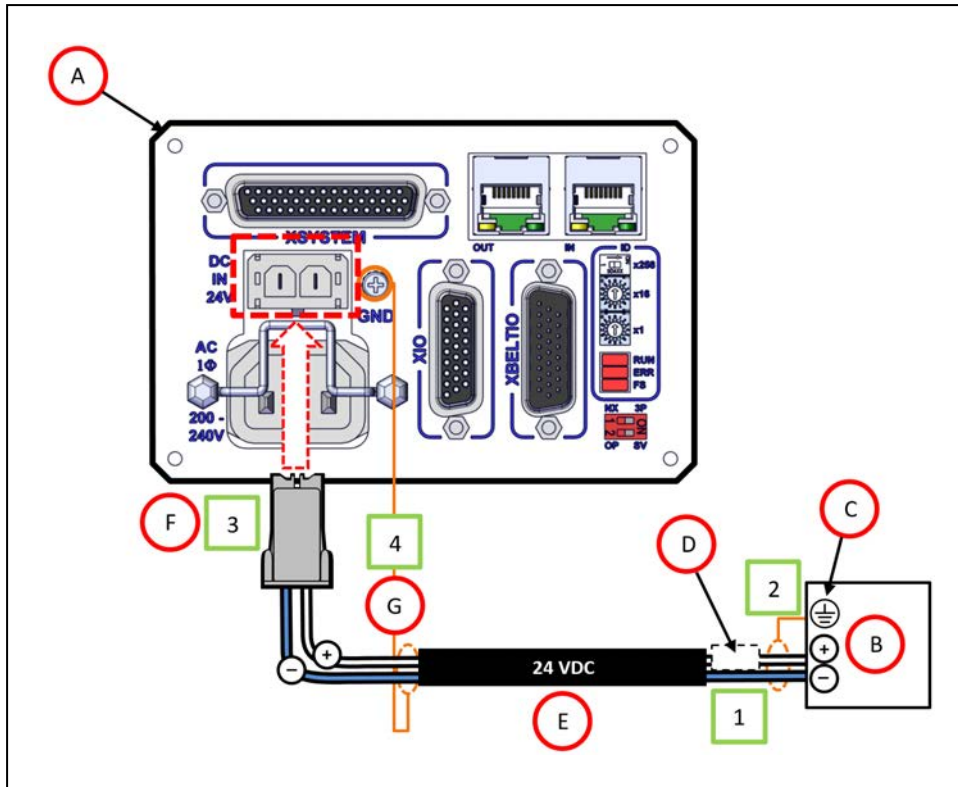

Figure 4-10. User-Supplied 24 VDC Cable, Power Supply
The 24 VDC output must be less than 300 W peak or 8 Amp (max) in-line circuit protection must be provided for each connected robot. Refer to (D) in Figure 4-10. .
2. Connect the cable shield (D) to frame ground on the power supply (C).
3. Plug the mating connector end of the 24 VDC cable (F) into the 24 VDC connector on the robot interface panel(A).
4. Connect the cable shield (G) to the ground point on the robot interface panel (A).